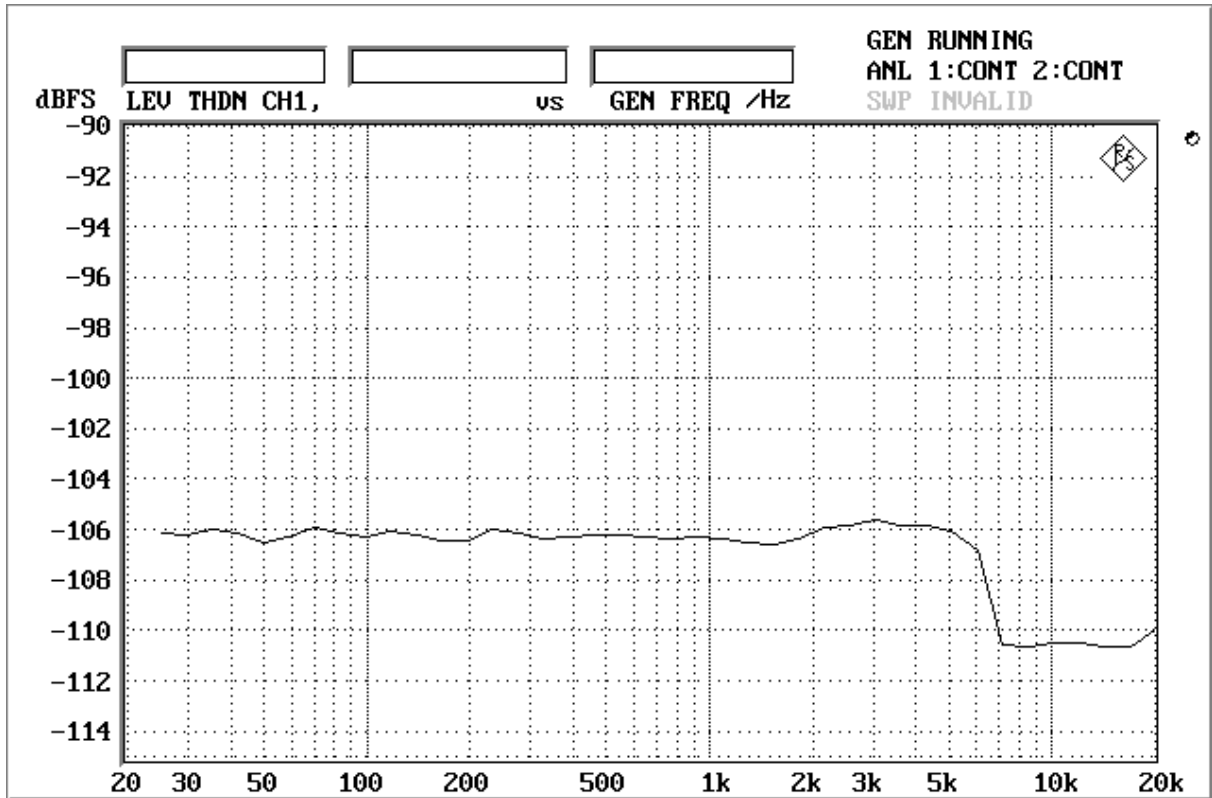

Fig. 5 THD+N vs. Input frequency (Input level = -1dB)
- Figure 5. THD+N vs Input Frequency (Input level = -1dB)